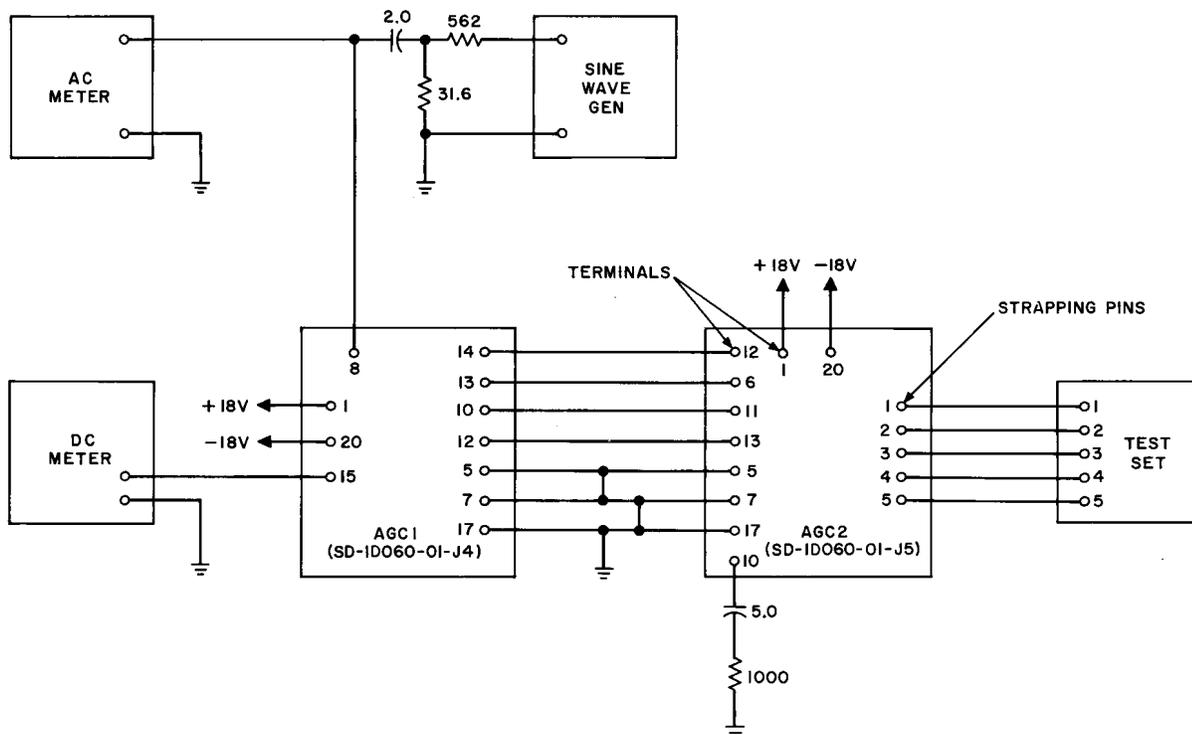

Fig. 18A — Automatic Gain Control 2 Test Circuit
(1) The gain adjustment of the AGC2 circuit pack is made in conjunction with the AGC1 circuit pack. Connect the circuit packs as in the suggested test circuit shown in Fig. 18A. Connect power to both circuit packs as specified in 4.16A.
(3) Connect the sine-wave generator in series with a $2.0 \mu\text{f}$ capacitor to terminal 8 of the AGC1 circuit pack as shown in Fig. 18A. Set the frequency of the generator to 1800 Hz (± 5 percent) and adjust the amplitude to obtain a $13.1 (\pm 0.05)$ mV rms signal between terminal 8 and ground of the AGC1 circuit pack. The voltage between terminal 15 and ground shall be $+6.5 (\pm 0.8)$ Vdc.
(4) Rotate switches A and B on the test set, beginning with both switches at position 1, according to the sequence given in Table C, until the voltage between terminal 15 and ground on the AGC1 circuit pack switches to less than $+0.3$ Vdc. Note the position of the test set switches.
(5) Using the test set switch positions obtained in (4), consult Table C to determine which pins should be strapped.
(6) Remove the circuit pack from the test circuit and strap the appropriate pins according to the instructions given in A-A of AGC2 circuit pack assembly drawing A-825179.